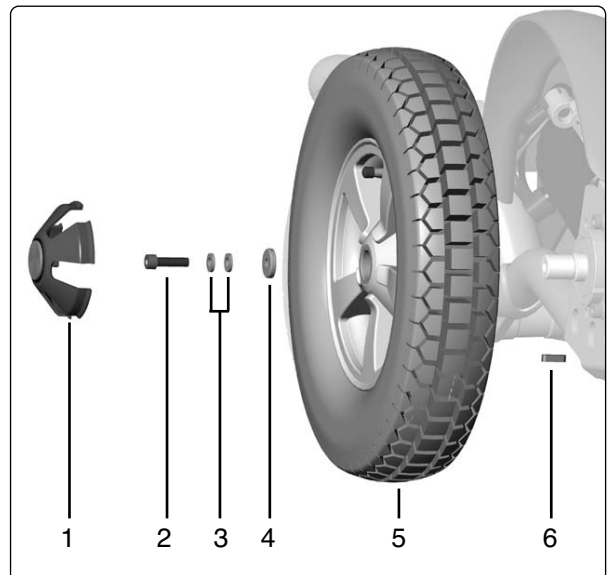

Fig. 13. Fitting of rim.
3. Remove the hubcap (1), bolt (2) and the three washers (3 and 4); see figure 13.
5. Mount the three washers (3) and 4) onto the bolt (2) and secure the wheel. **Use a torque wrench to tighten the bolt to 24 ft-lbs (33Nm).** Install the hub cap (1). See Fig. 13.